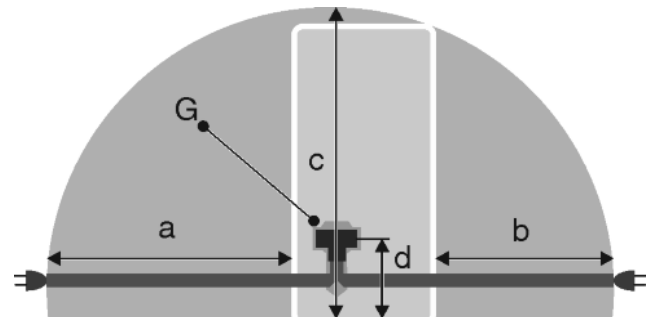

Fig. 22
- The socket is outside the back of the appliance area in the specified area Fig. 22 (a, b, c).
- ▶ Insert the appliance plug Fig. 22 (G) into the back of the appliance. Ensure that it clicks into place.